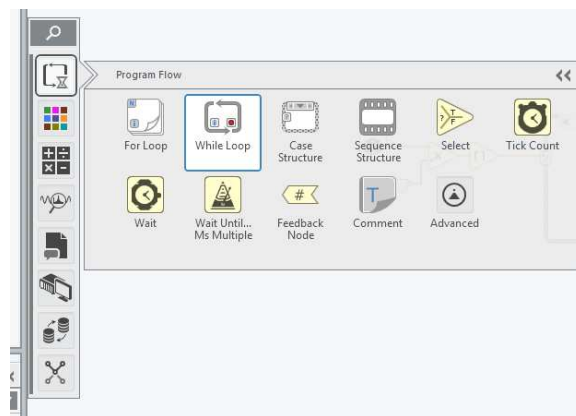
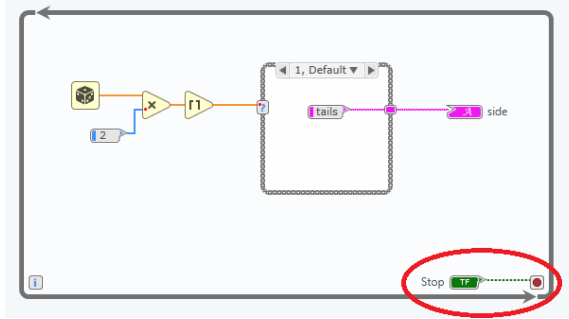

Figure 1.23: While Loop in the diagram palette
Figure 1.24: While Loop around the code
- From the “Diagram Palette” add a “While Loop” to the diagram (Fig. 1.23) and add a While Loop around all of the code in the VI. Finally, connect the stop button to the stop indicator of the while loop (Fig. 1.24).